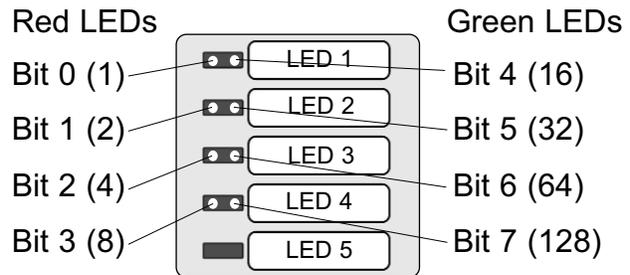

Figure 109: Binary data represented by LEDs
- Each number is displayed in a binary code where each LED indicator has a binary value (Figure 109.).
- Network address is displayed for 2 s in a binary code where each LED has a binary value (Figure 109).